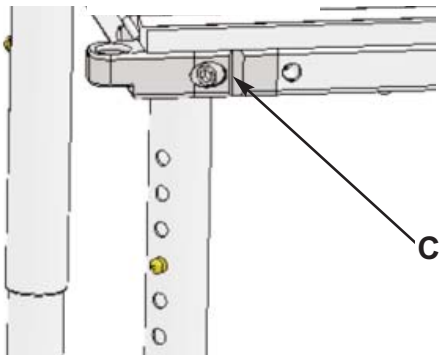

Figure 24
**C Fasteners:** Over time the screws and washers on the chair may become loose. It is very important that these are checked and securely tightened before each use. Failure to do so could cause a part to dislodge from the chair (Refer to Figure 24).